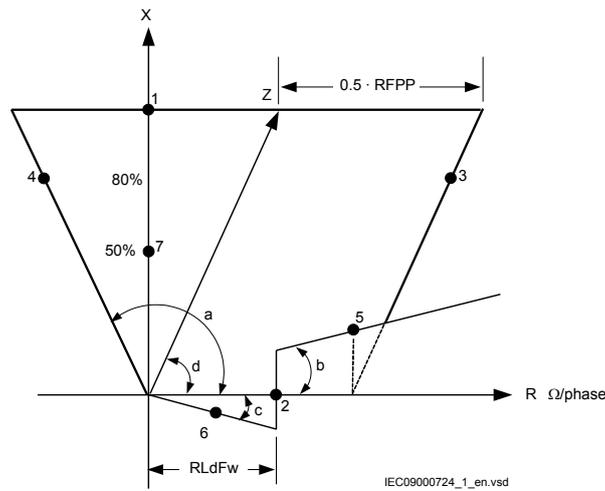

Figure 9: Distance protection characteristic with test points for phase-to-phase measurements
Table 2 is used in conjunction with figure 9.
2. Apply the fault condition and slowly decrease the measured impedance to find the operating value of the phase-to-phase fault L1-L2 for zone 1 according to test point 1 in figure 9 and table 2. Compare the result of the measurement with the set value.
2. Apply the fault condition to find the operating time for the phase-to-phase fault according to test point 7 in figure 9 and table 2 for zone 1. Compare the result of the measurement with the setting $tIPP$.